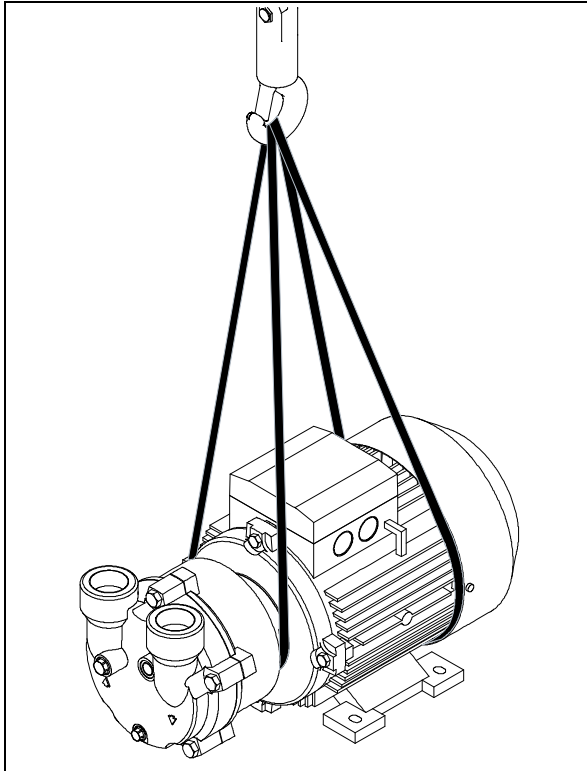

Fig. 3: Lifting points 2BV2...
- Run the lifting straps under the pump casing and under the fan guard (Fig. 3, page 14).